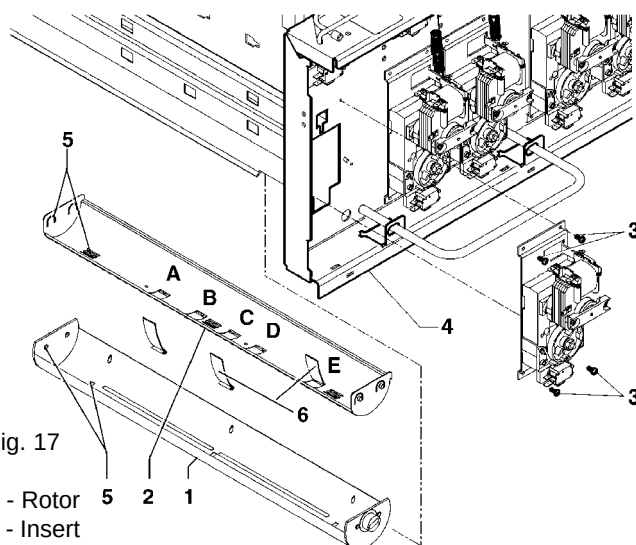

Fig. 17
- to adjust the rotor for dispensing cans in four rows, it is necessary to insert three anti-theft plates into the special slots (see Fig. 17). The plates stop the cans from sliding in the rotor when this is partially empty. The plates must be inserted into the slots B-D-E for 250 cc cans and into the slots A-C-E for 330 and 355 cc cans.